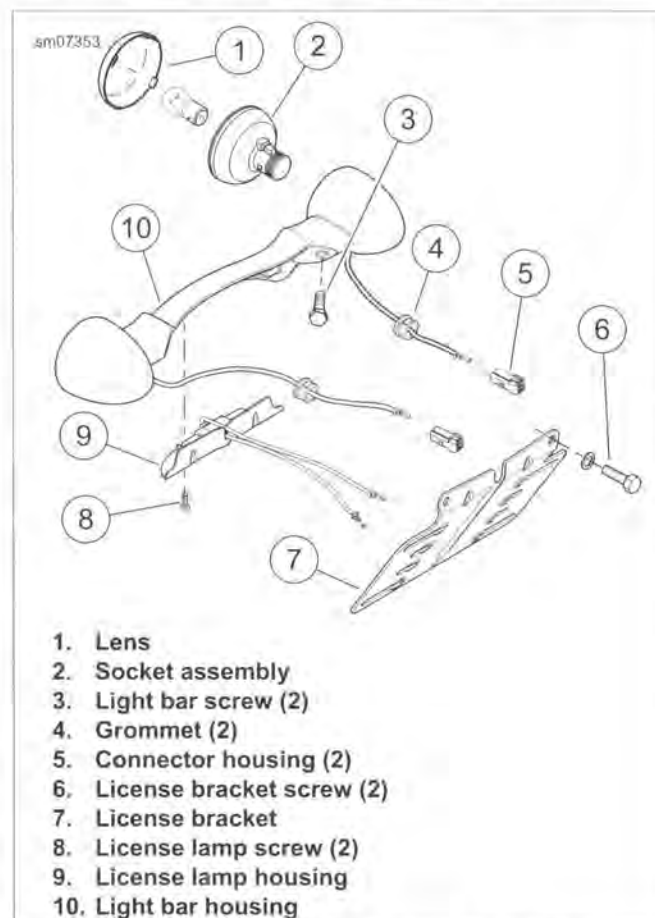

Figure 7-50. Rear Turn Signals: FLD
3. See Figure 7-50. Remove light bar screws (3) to release light bar assembly. Remove bracket and harnesses from fender.
4. Remove license bracket screws (6) to release license bracket.
5. Remove license lamp screws (8) to release license lamp.
6. See 7.14 TURN SIGNALS, Rear Turn Signal Reflector/Isolator Repair: FLD if socket assembly (2) requires replacement.
1. See Figure 7-50. Install license lamp.
2. Install license bracket (7) and license bracket screws (6). Tighten to 60-80 in-lbs (6.8-9.0 Nm).
3. Verify grommets (4) are in place and feed harnesses through respective holes to inboard side of fender.
4. Apply one drop of LOCTITE 271 HIGH STRENGTH THREADLOCKER (red) to light bar screws (3).